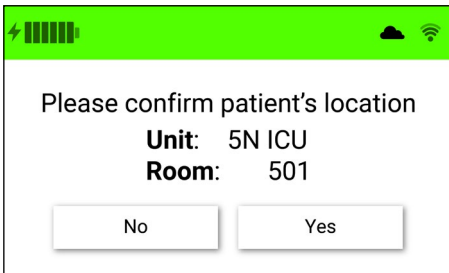

Figure 33. Validate patient unit and room number screen
1. Whenever the Guardian 2 System is plugged in, it will prompt the user to validate the current patient unit and room number. (Fig. 33)